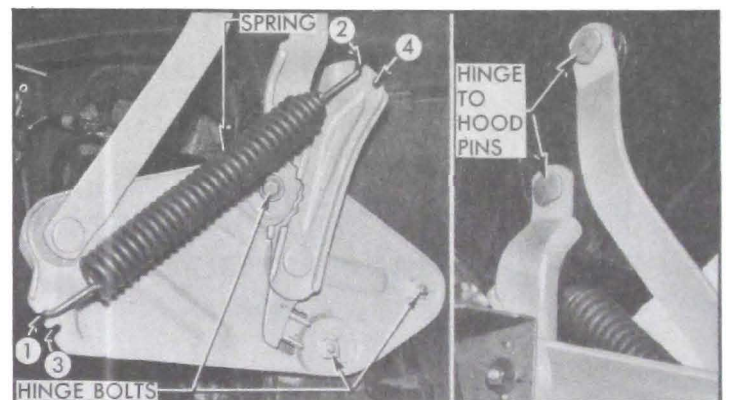

Figure 12-2—Hood Hinge—Left Side
The rear end of the hood is attached to the body cowl on each side by hinge assemblies which permit the front end of hood to be raised, alligator type. A heavy coil spring on each hinge assembly assists in raising the hood and holds it up when in the open position. The springs exert a downward pull when hood is in closed position. See Figure 12-2.
(1) *Hood Hinges.* Each hood hinge is attached to the body cowl with three bolts and the hinge arms are attached to the hood with threaded pins. The two lower hinge bolts screw into nuts welded to the hinge plate and are installed from the inside of cowl. See figure 12-2.
(a) When springs are engaged in notches numbered 2 and 3 in figure 12-2, they provide substantial "pull down" and easy hood raising. *This is the standard production setting.*
(b) When springs are engaged in notches numbered 1 and 2 (fig. 12-2) they provide maximum ease in raising the hood but a minimum of "pull down" on hood when closed.
(c) When springs are engaged in notches numbered 1 and 4 or 3 and 4 (fig. 12-2) they provide greater "pull down" on the closed hood but also provide the least assistance in raising hood. Notches 3 and 4 are not recommended because of extreme effort required when raising hood.